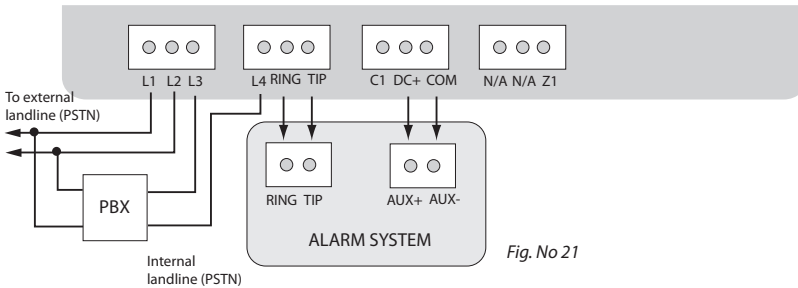

Fig. No 21
1. Connect the circuit as indicated in Fig. No. 21 – connect telephone contacts of the alarm system RING/TIP to RING/TIP contacts of communicator.